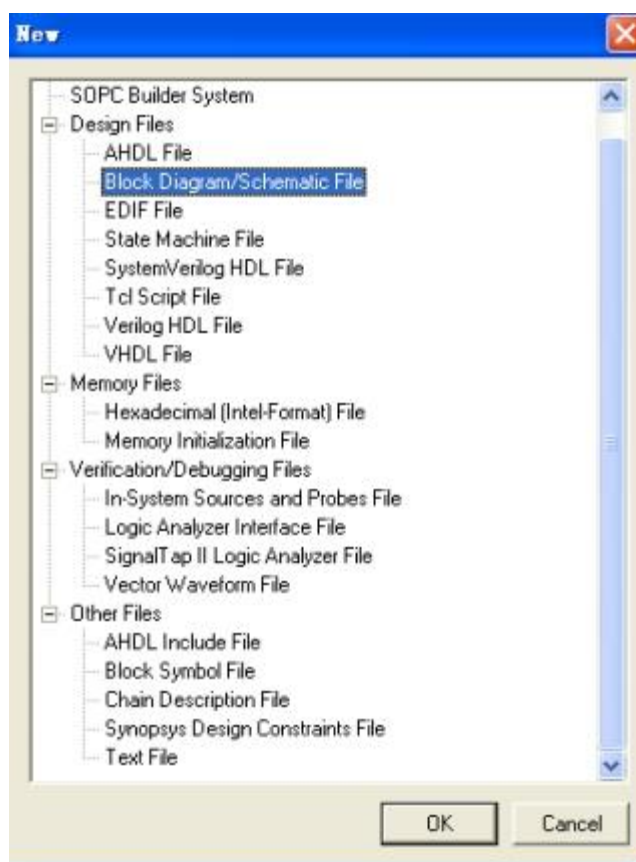

Figure 3-1 New BDF
1. Choose File > New > Block Diagram/Schematic File (see Figure 3-1 to create a new file, Block1.bdf, which you will save as the top-level design.